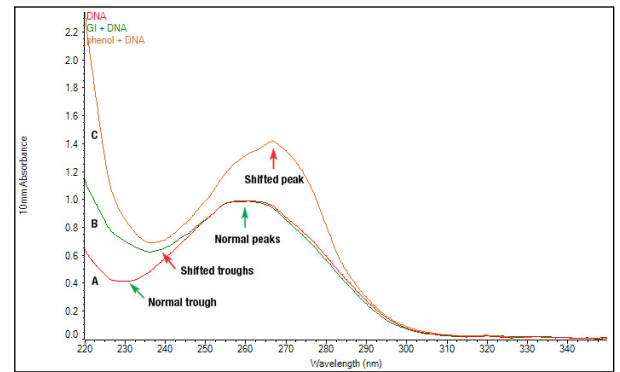

Figure 2: Spectra of purified DNA without contamination (A), and of the same DNA sample contaminated with guanidine (B) and phenol (C)
- Wavelength of the trough in sample spectrum– this should be at ~230 nm. Absorbance by a contaminant at a low wavelength will typically shift the wavelength of the trough. Refer to Figure 2.
- Wavelength of the peak in sample spectrum – this should be at 260 nm. Absorbance by a contaminant may shift the peak absorbance wavelength. Refer to Figure 2.